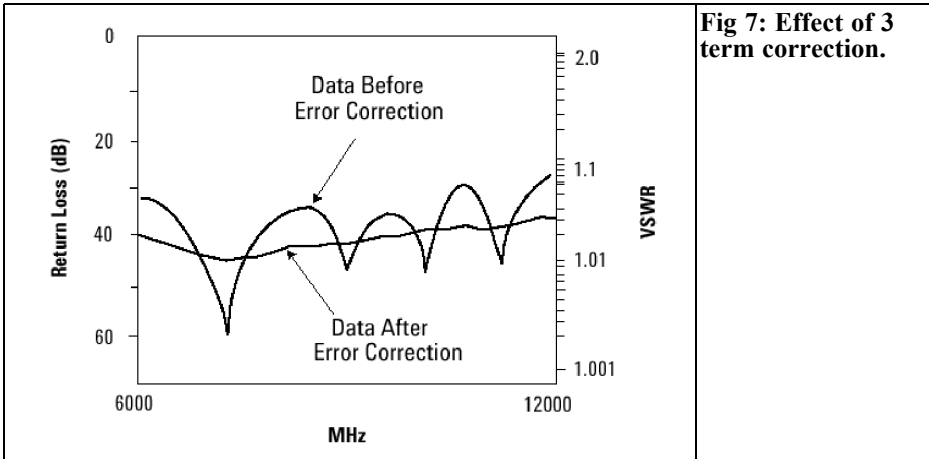

Fig 7: Effect of 3 term correction.
- Implementation of 3 term error correction for S11 (see Fig 7)